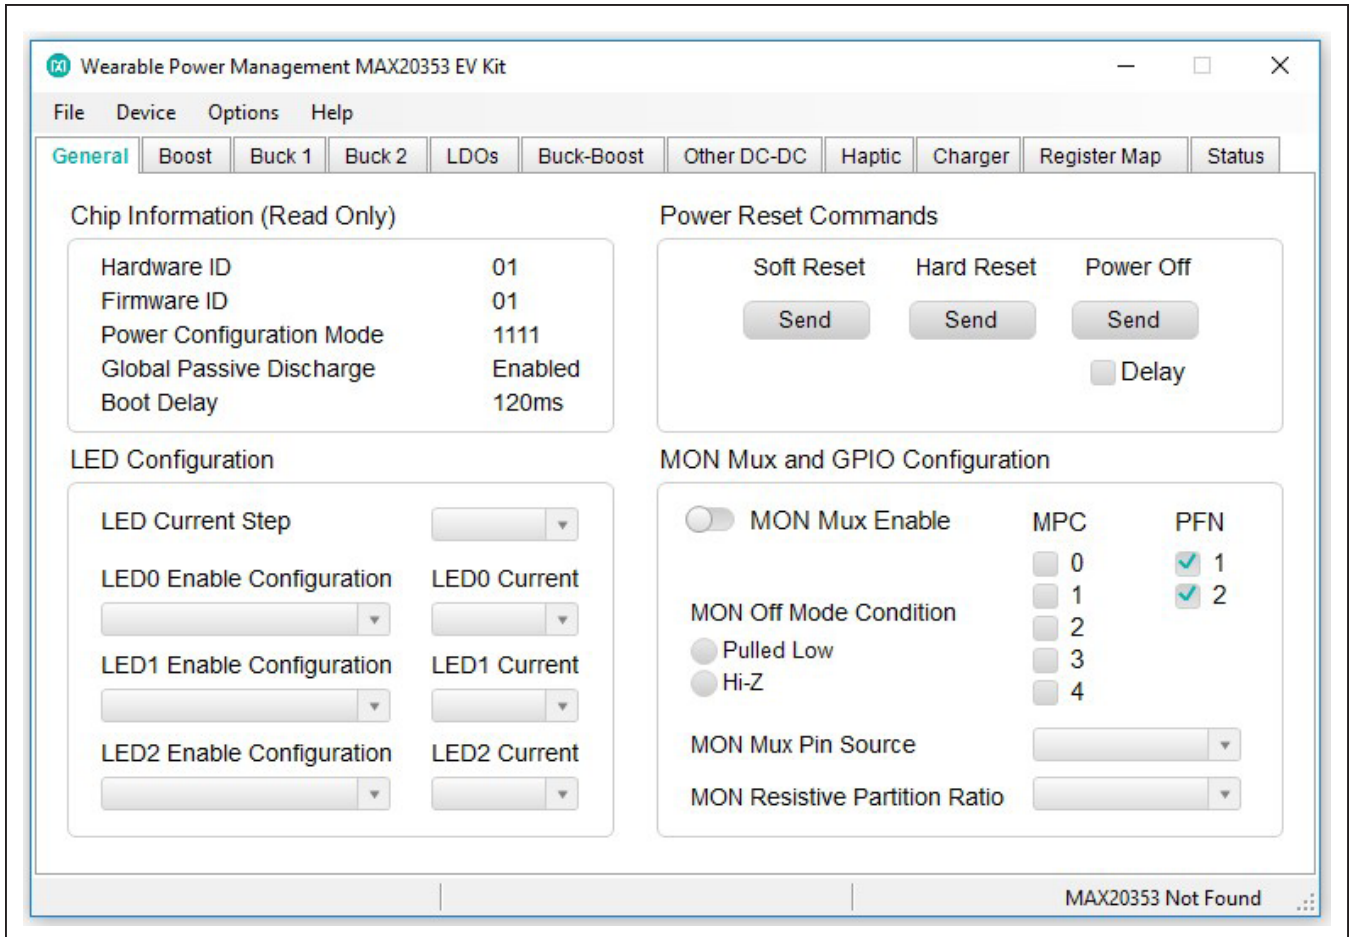

Figure 1. MAX20353 Not Found Status
- 7) On the computer, open the MAX20353 GUI. It should look like Figure 1; the status bar on the bottom displays **MAX20353 Not Found**.